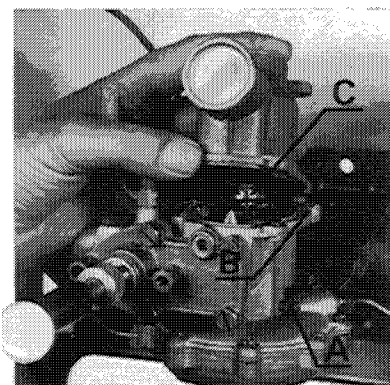

Fig. 22
- Release two screws securing gas section to water section (A fig. 22).
### 7.3.4 To clean the gas valve (fig. 22)